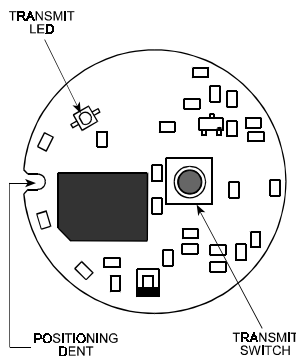

Figure 3. Transmitter Module - Top Side
Upon removing the cover, the top side of the transmitter module is viewed (Fig. 3). The battery clip and battery will be out of sight - they are both located on the bottom (hidden) side of the module.
- D. Turn the transmitter module over and briefly press the transmit switch (Fig. 3). The on-board LED should light brightly for 2 seconds.
- E. Align the positioning dent (Figure 3) with the guide pin in
- B. Align the cover with the base: make sure that the transparent lens is over the transmit LED and the transmit pushbutton is over the transmit switch (Fig. 3). Then press the cover and the base together between your fingers.